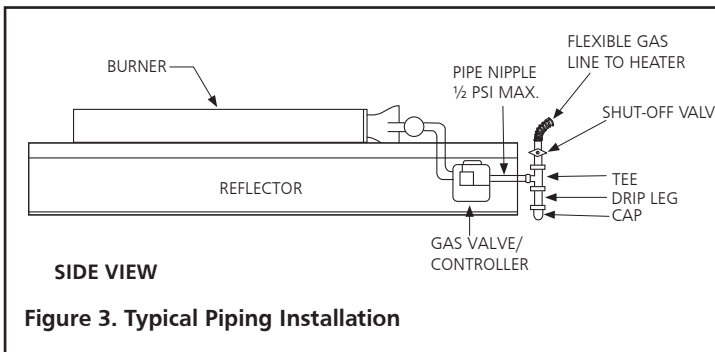

Figure 3. Typical Piping Installation
- A sediment trap meeting the typical requirements of Figure 3 shall be installed in the line to the gas valve.
! WARNING: DO NOT EXCEED ½ P.S.I. (14" W.C.) INLET PRESSURE TO HEATERS AS SHOWN IN FIGURE 3 AND TABLE 2